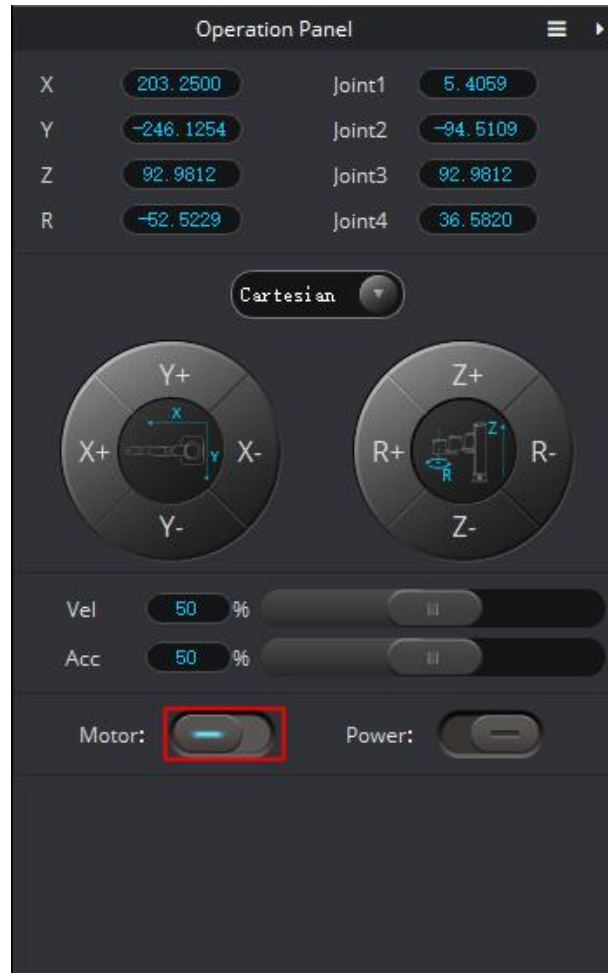

Figure 5.24 Disabling Dobot M1
Step 1 Click the  icon of **Motor** on the **Operation Panel** pane of the M1Studio page, as shown in Figure 5.24.